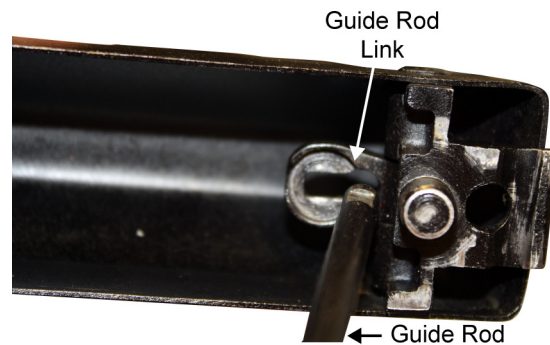

Figure 3. The Guide Rod in the Round Side of the Hole in the Guide Rod Link
- Slide the end of the guide rod into the round side of the hole in the guide rod link, and remove the guide rod from the guide rod link. Refer to Figure 3